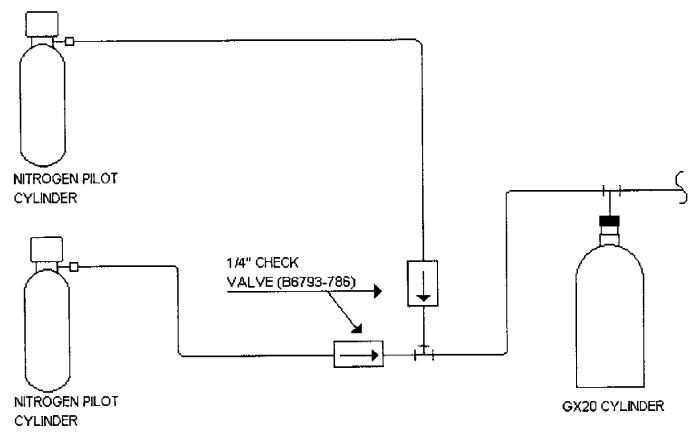

Figure 3.10 Multiple Nitrogen Pilot Cylinders
See Figure 3.10.
1. 1/4 inch check valves (Part No. B6793-786) shall be installed at the intersection of each pilot line to the main actuator line, see Figure 3.10